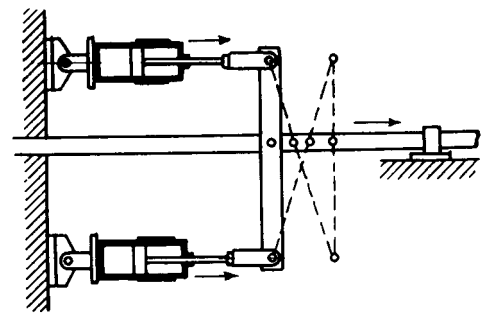

Fig. 9 Two pistons with fixed strokes position the load in any of four stations.
**Fig. 9** A disk drives the oscillating arm which acts as piston. The velocity of the arm varies because of its quick-return mechanism. Liquid is slowly drawn in and expelled during the clockwise rotation of the arm; the return stroke transfers the liquid rapidly.